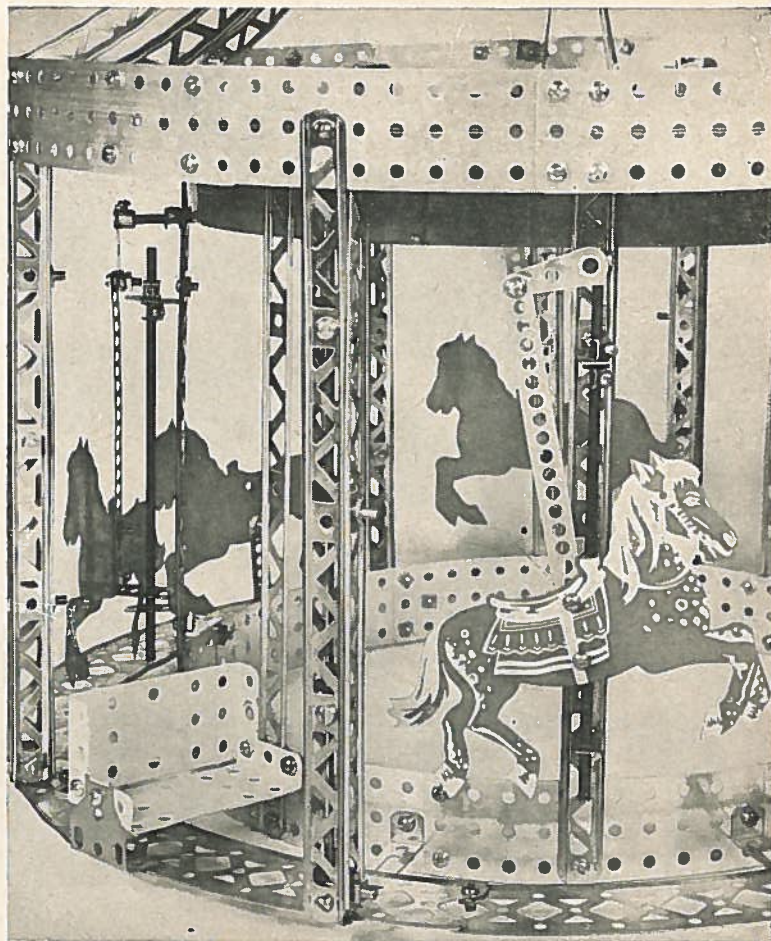

FIGURE 6
ASSEMBLY OF HORSES —FIGURE 6 AT RIGHT
The two stationary horses are fastened to the outer bottom ring with a (G) 7 hole strip and a (CH) right angle (Figure 1). The horses that move up and down do so by using an (AA) eccentric crank (Figure 6) which is fastened to the revolving $7\frac{1}{2}$ " axles. An (O) pawl is fastened to the horse which moves
The seats are constructed with two (MC) 1" x $2\frac{1}{2}$ " base plates which are fastened to the outer bottom ring with a P79 car truck. The seat is also fastened to the inner bottom ring. See Figure 6.